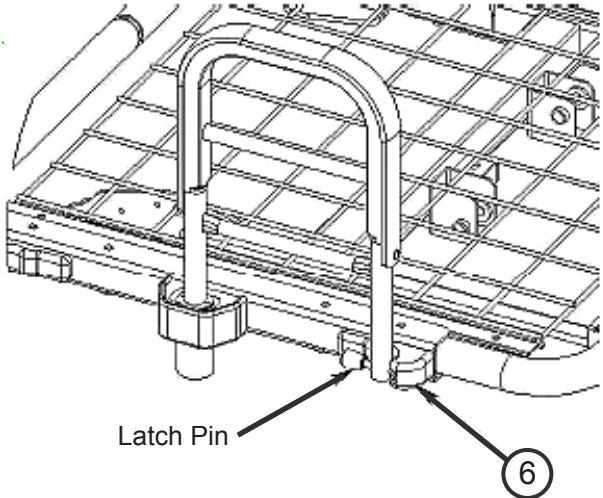

Figure 5
3. Lock the assist handle by engaging the latch pin into the latch (Item 6) as shown in Figure 5.